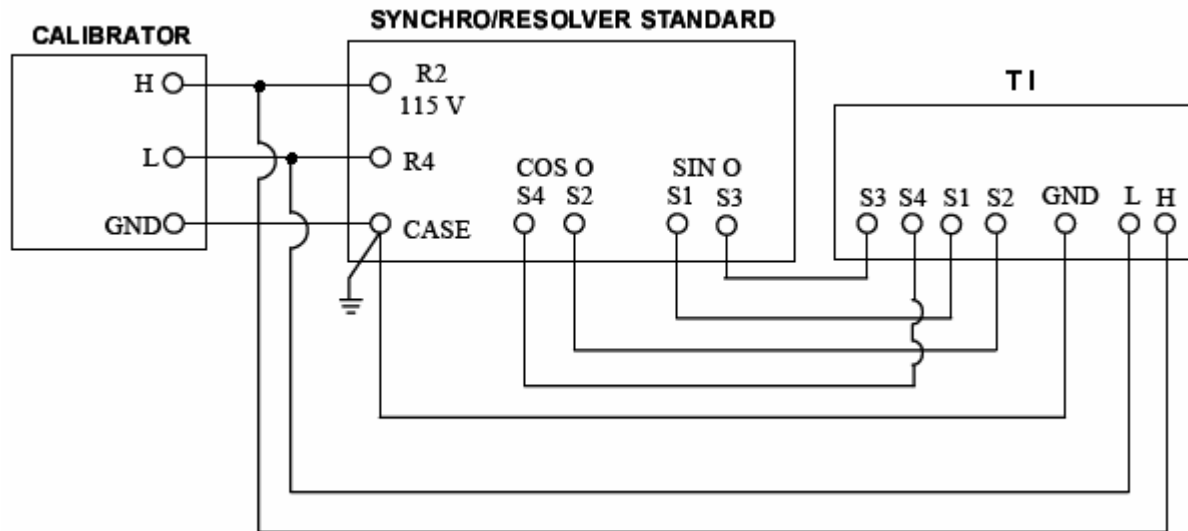

Figure 1. Resolver accuracy equipment setup.
a. Connect equipment as shown in figure 1.